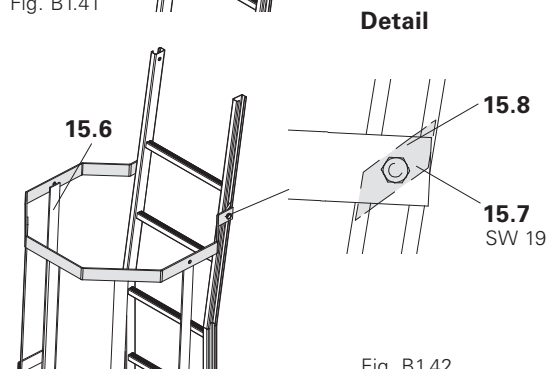

Fig. B1.42
2. Slightly loosen bolts SW 19 (15.7) (4x) on clamping plate (15.8), position clamping plate on the ladder longitudinal members, and tighten screws. (Fig. B1.42)